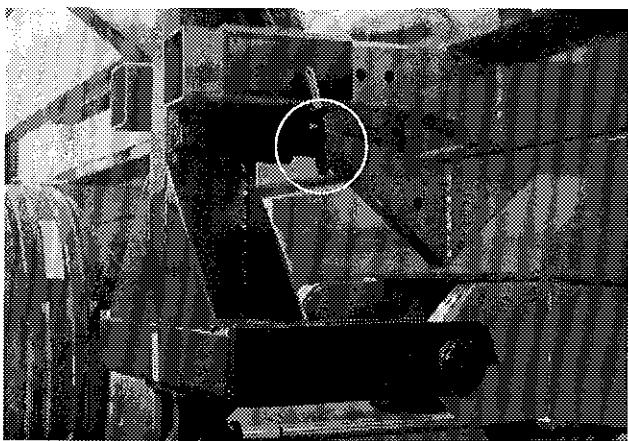

Figure 10
- 5) When not in use, always lock the loading arms with the pin provided. (Figure 10, page 9)
- 1) Lock the loading arms with the pin provided. (Figure 10, page 9)
- 8) Operate all hydraulic functions in order to purge the system. **Do not forget to remove the pin locking the loading arm in the upright position** (Figure 10) and assure there is no one within 10 feet of the loading area.